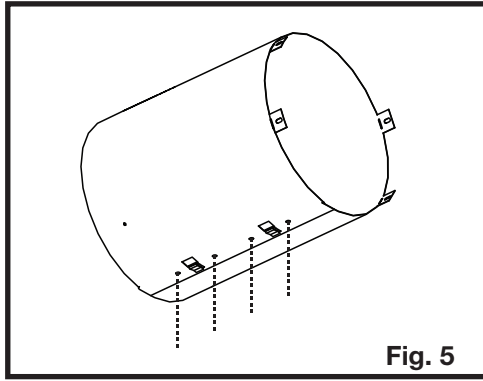

Fig. 5
- 2. Ensure both ends line up and secure ends with clip and fasteners (Figure 5).